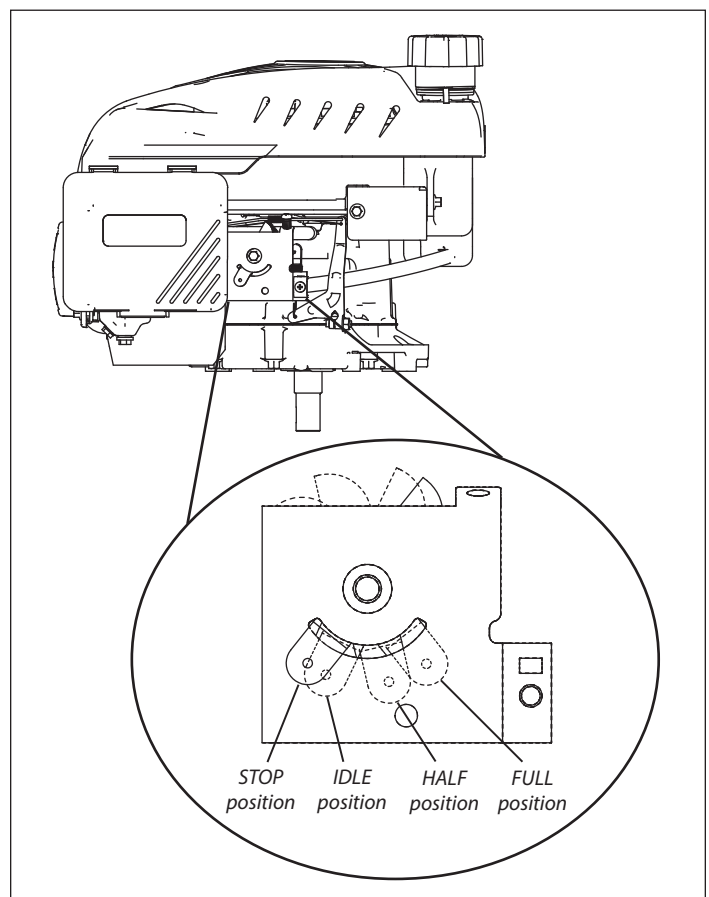

FIGURE 4: Throttle positions
5. Move throttle between the "HALF" and "FULL" position. *(This is not necessary on models with throttle fixed at full throttle position.)* **SEE FIGURE 4**
7. After engine begins operating, move throttle lever to "IDLE" position (**SEE FIGURE 4**). Run engine for 30 to 45 seconds at "IDLE" position until engine warms up. Then return throttle to operating speed. *(This is not necessary on models with throttle fixed at full throttle position.)*
2. Move throttle to "STOP" position. On models with fixed throttle, move ON/OFF switch to "OFF" position. **SEE FIGURE 4**